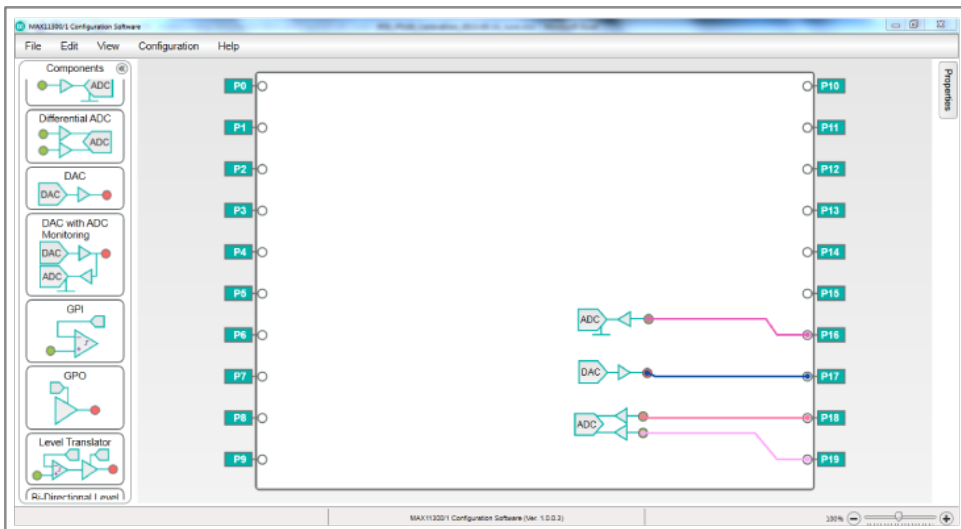

Figure 6. MAX11300 control loop registers configuration.
8. Run the Configuration Software and configure the registers as shown in **Figure 6**. In this exercise, ports 18 and 19 are used to configure the differential ADC connected to the amplifiers from the RTD to 4–20mA board. Port 17 is configured as the transmitter DAC, and the transmitted current measuring ADC is configured at port 16.